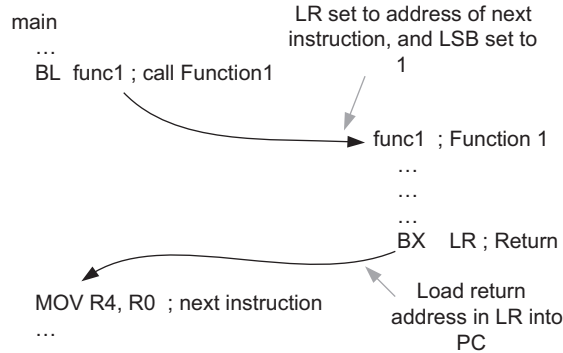

Figure 5.10:
BL is commonly used for calling a subroutine or function. When it is executed, the address of the next instruction will be stored to the Link Register (LR), with the LSB set to 1. When the subroutine or function completes the required task, it can then return to the calling program by executing a “BX LR” instruction (Figure 5.10).